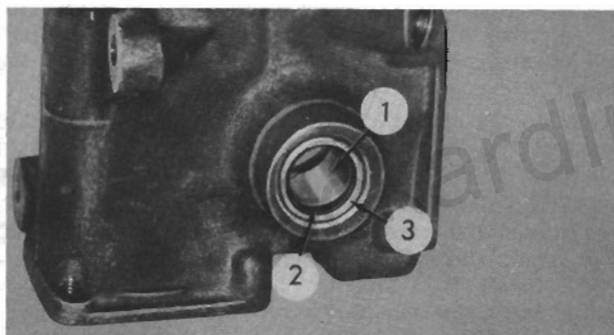

FIG. 54
Use a sharp punch to pry the pitman shaft packing (2, Fig. 54) and retainer (3) out of the housing. This seal should be replaced whenever the pitman shaft is removed. Be careful when removing the seal not to damage the bushing (1).